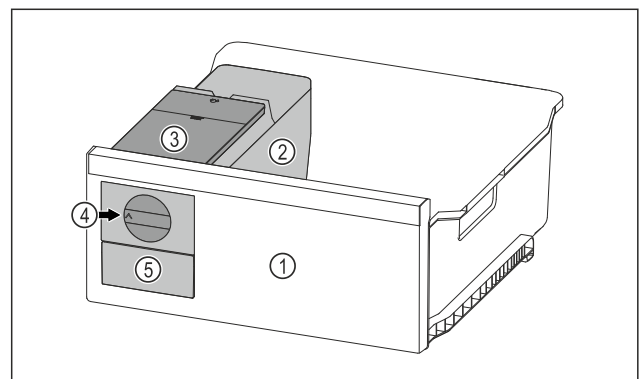

Fig. 75 Example illustration
- Turn the rotary knob Fig. 75 (4) clockwise as far as it will go.
- Ice cubes fall from the ice cube tray into the ice cube drawer Fig. 75 (5).